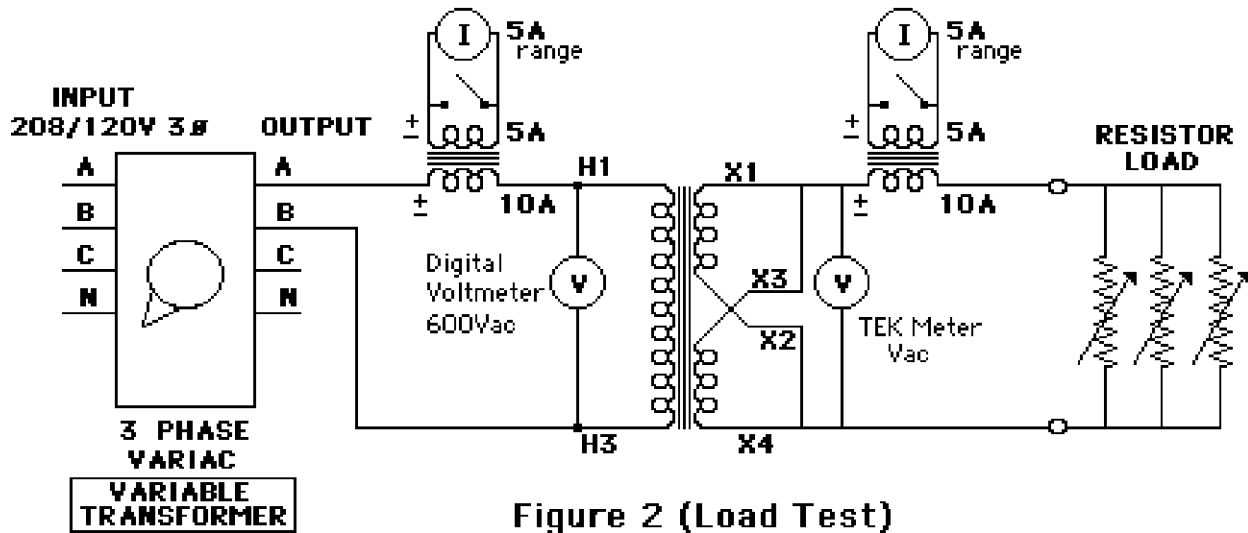

Figure 2 (Load Test)
9. Construct the circuit of figure 2 and have your instructor check the circuit before energizing it.